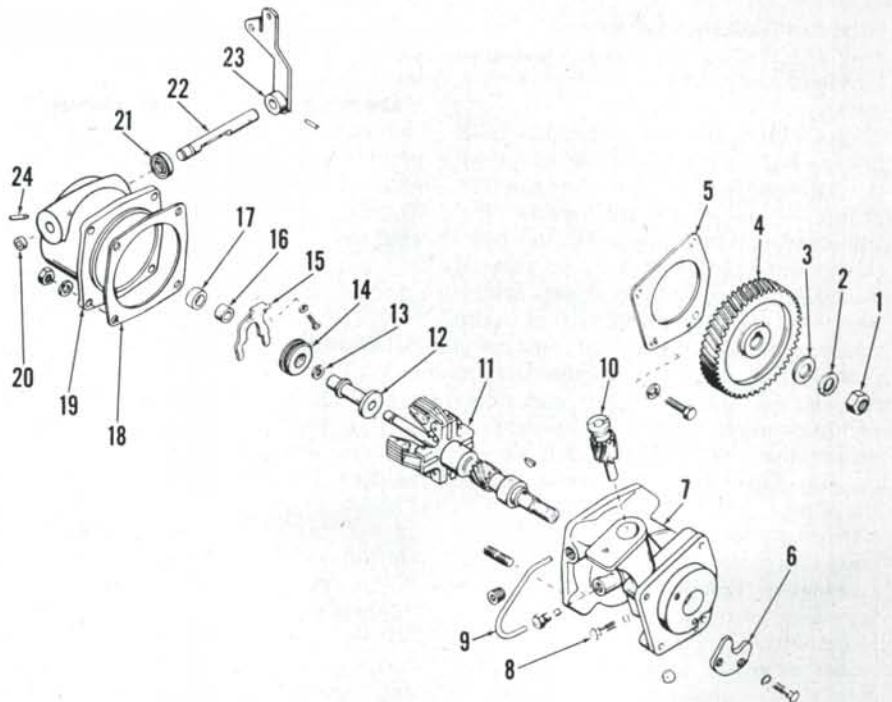

Fig. 120—Exploded view of governor and distributor drive assembly used on gasoline engines.
**113. OVERHAUL.** Governor arm shaft, bearings and associated parts can be inspected and/or overhauled by unbolting and removing governor housing (19—Fig. 120). To remove shaft and weight unit, it is first necessary to remove timing gear cover as outlined in paragraph 18 and governor gear as in paragraph 22. Distributor drive unit which carries governor weights can then be removed as outlined in paragraph 28. Shaft and weight unit is only available as an assembly.
Refer to Fig. 120 for a disassembled view of governor unit. The governor shaft (11) should have diametral clearance of 0.023-0.061 mm (0.0008-0.0024 inch) in bore of housing (7) and clearance of 0.102-0.140 mm (0.0040-0.0055 inch) in bushing (16). Recommended governor shaft end play is 0.10-0.20 mm (0.004-0.008 inch). Distributor drive shaft (10) should have 0.025-0.076 mm (0.001-0.003 inch) clearance in bushing bore. Recommended distributor drive shaft end play is 0.25-1.06 mm (0.010-0.042 inch). Control shaft (22) should have 0.025-0.076 mm (0.001-0.003 inch) diametral clearance in housing (19).